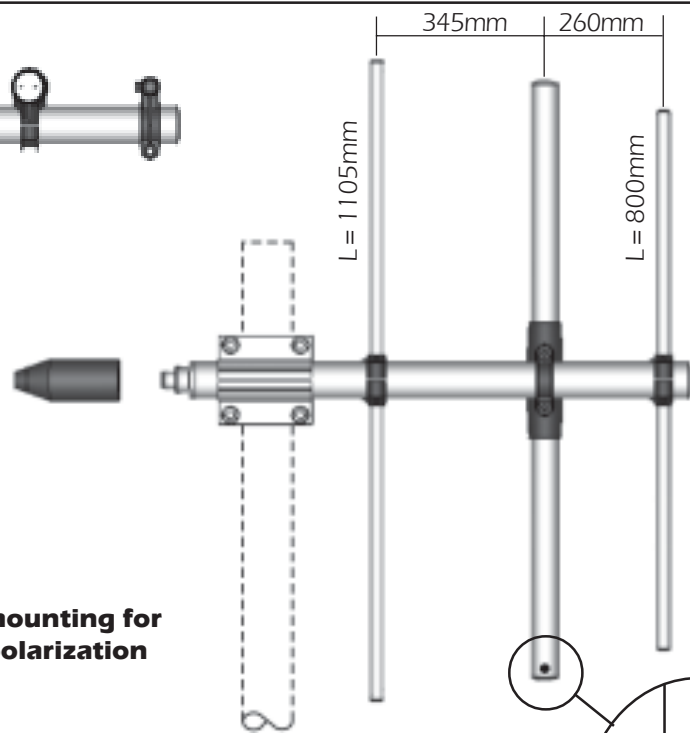

Fig.1
1) By means of a meter measure the aluminium elements **A** and position them in the plastic support **B** of the boom according to **fig.1**.